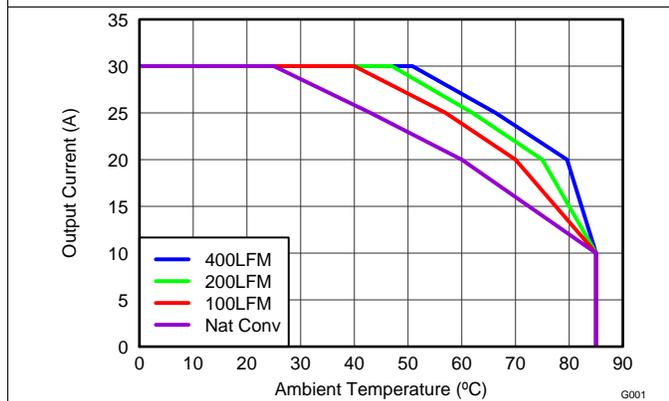
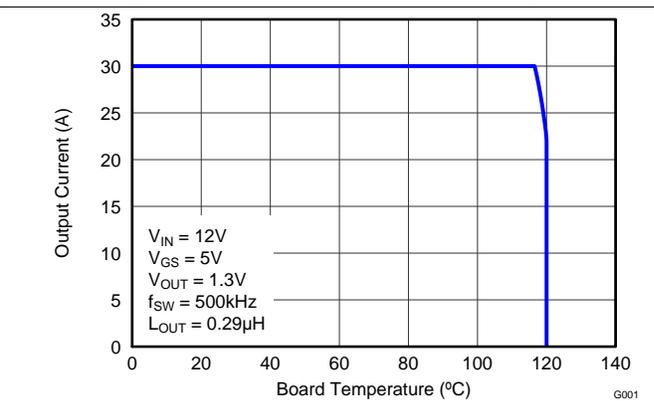

Figure 3. Safe Operating Area – PCB Horizontal Mount
Figure 4. Typical Safe Operating Area
$T_j = 125^{\circ}\text{C}$, unless stated otherwise. For Figure 3 and Figure 4, the Typical Power Block System Characteristic curves are based on measurements made on a PCB design with dimensions of 4.0 inches (W) x 3.5 inches (L) x 0.062 inch (H) and 6 copper layers of 1 oz. copper thickness. See *Application and Implementation* for detailed explanation.
$T_J = 125^\circ\text{C}$, unless stated otherwise. For Figure 3 and Figure 4, the Typical Power Block System Characteristic curves are based on measurements made on a PCB design with dimensions of 4.0 inches (W) x 3.5 inches (L) x 0.062 inch (H) and 6 copper layers of 1 oz. copper thickness. See Application and Implementation for detailed explanation.
The SOA curves in the CSD87384M data sheet provide guidance on the temperature boundaries within an operating system by incorporating the thermal resistance and system power loss. Figure 3 to Figure 4 outline the temperature and airflow conditions required for a given load current. The area under the curve dictates the safe operating area. All the curves are based on measurements made on a PCB design with dimensions of 4 inches (W) × 3.5 inches (L) × 0.062 inch (T) and 6 copper layers of 1 oz. copper thickness.